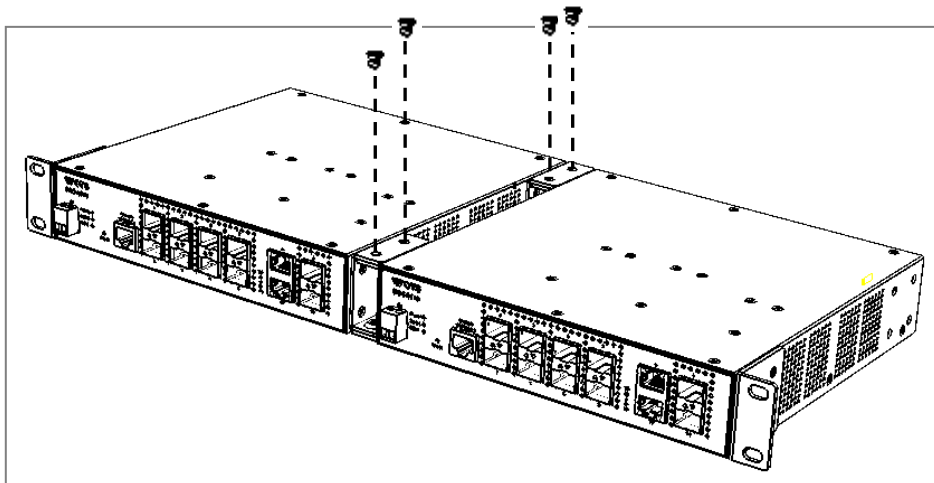

Figure 2-4. Screw the locked switches for two-switch mounting
- Step 4.** Insert the screws provided in the FOS combine kit through the holes into each middle mount. (See Figure 2-4)